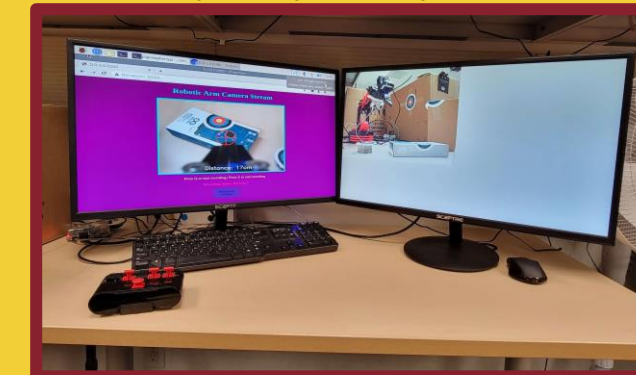

Figure 3. Environment Operator Setup
3. Setup environment for experimenting (Fig. 3):